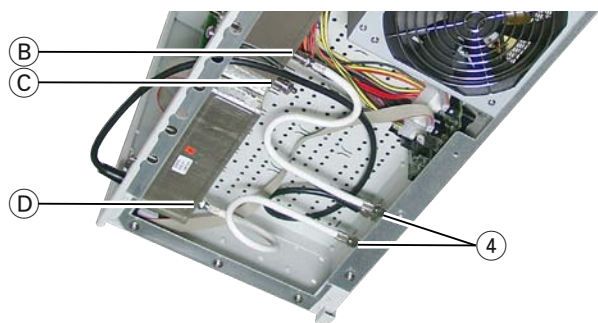

Fig. 6
- Connect inputs (B) and (D) of the SAT IF input distributor with the appropriate pre-installed F terminals (4) in the rear wall of the head-end station (fig. 6) using HF cables made on-site (length approx. 30 cm).
- Terminate the loop-through output (C) with the terminator.